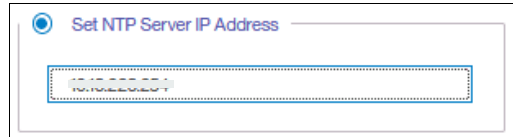

Figure 7-43 Set NTP Server IP Address window
- If you are using an NTP server, select **Set NTP Server IP Address** and then enter the IP address of the NTP server, as shown in Figure 7-43 on page 269.